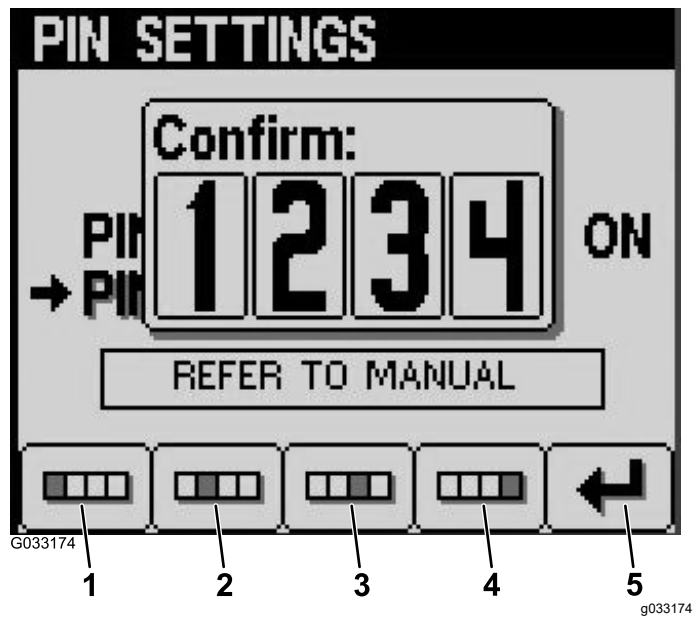

Figure 17
8. Confirm your new PIN using buttons 1 to 4 and press button 5 when you complete the PIN (Figure 17).